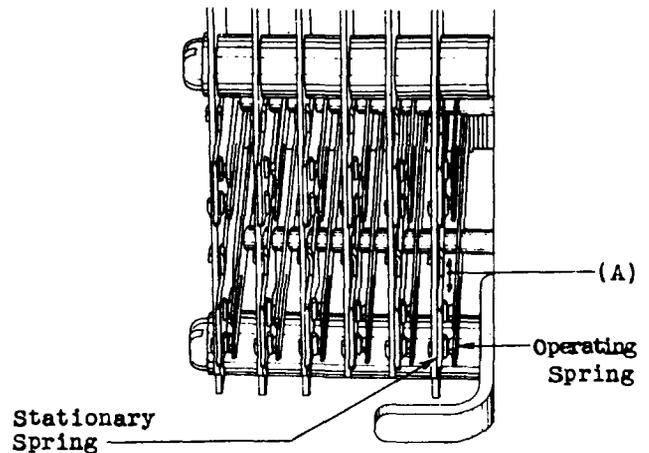

Fig. 3 - Spring Clearance With Switch in Operated Position
2.05 Spring Clearance - Fig. 3 (A): With the switch in the operated position, the clearance between any operating spring and the associated stationary spring to the left shall be